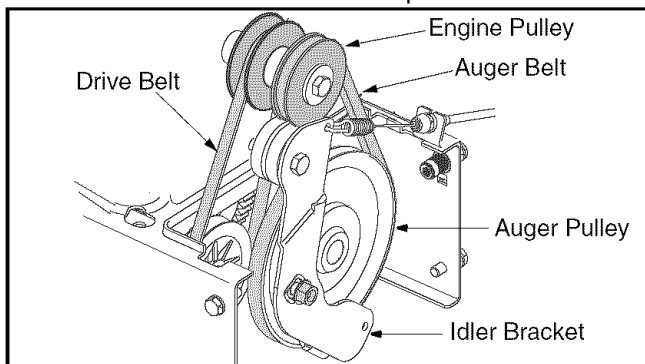

Figure 14
- Slip the front auger belt off the engine pulley pushing it down between the idler bracket and the engine pulley. See Figure 14.
- Place the new drive belt into the groove on the engine pulley. See Figure 14.